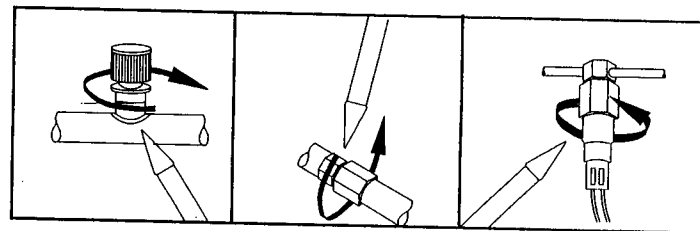

FIG 6
5. At each area checked, the probe should be moved around the location, at a rate no more than 25 to 50 mm/second (1-2 in/second), and no more than 5m (1/4 in.) from the surface, completely around the position. Slower and closer movement of the probe greatly improves the likelihood of finding a leak (see fig. 6). Any increase in beep rate is indicative of a leak.